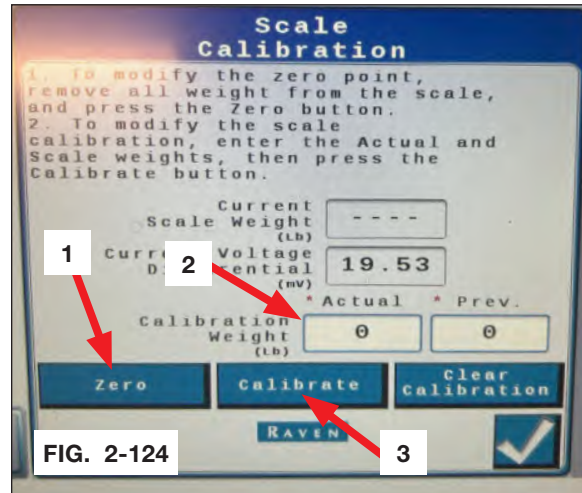

FIG. 2-124
NOTE: If dashes are displayed for “Current Scale Weight”, follow steps 11 to 16. (FIG. 2-124)
12. Click the “Zero” button to zero the scale. (FIG. 2-124)
14. Enter the known weight into the “Actual Weight” box. (FIG. 2-124)
15. Click “Calibrate” box to accept the changed calibration number. (FIG. 2-124)